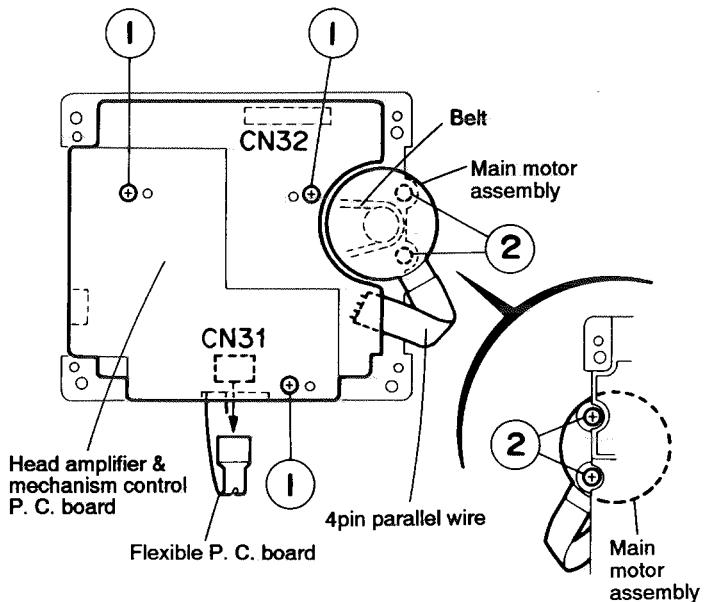

Fig. 5-22
### ■ Removing the Head Amplifier & Mechanism Control P.C. Board (See Fig. 5-22)
1. Remove the two screws ② retaining the main motor assembly (See Fig. 5-22, 22a).